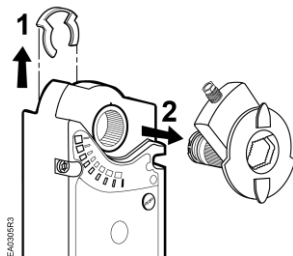

Figure 12.
2. Remove the clip and shaft adapter from the actuator. See Figure 12.